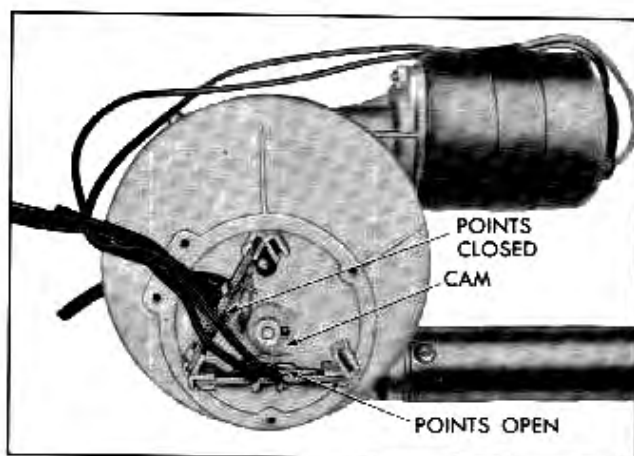

Fig. 14-15 Setting Cam in Proper Position
4. Replace cam assembly and rotate until small lobe on lower cam trips switch (Fig. 14-15). Tighten set screw in this position with allen wrench.